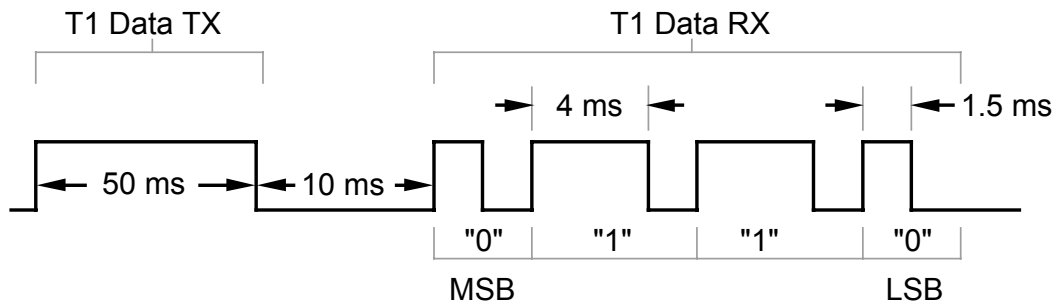

Figure 3
- Relays can also be controlled by sending binary data via J3. Use the TUNE and DATA timing shown in **Figure 3**. Send 0000 to reset all relays, and 0001-1111 to set K1-K15 respectively. Once any relay data is sent via J3, you’ll need to use only this method, not manual selection.
Figure 3 shows the protocol. First, the T1 sends a band request pulse on the DATA line, which is initially an *input* at the control device. When the control device sees the end of the request pulse, it sets up DATA as an *output*, and after a 10-ms delay, sends a band ID to the T1 (band 6 in this example, or "0110" in binary). The ID is sent most-significant-bit (MSB) first, each bit having a high and low period. The high period is 4 ms for a "1" and 1.5 ms for a "0". The low period is always 1.5 ms, except for that of the LSB (least-significant-bit), which can be extended indefinitely. Timing values should be held to +/- 15%.